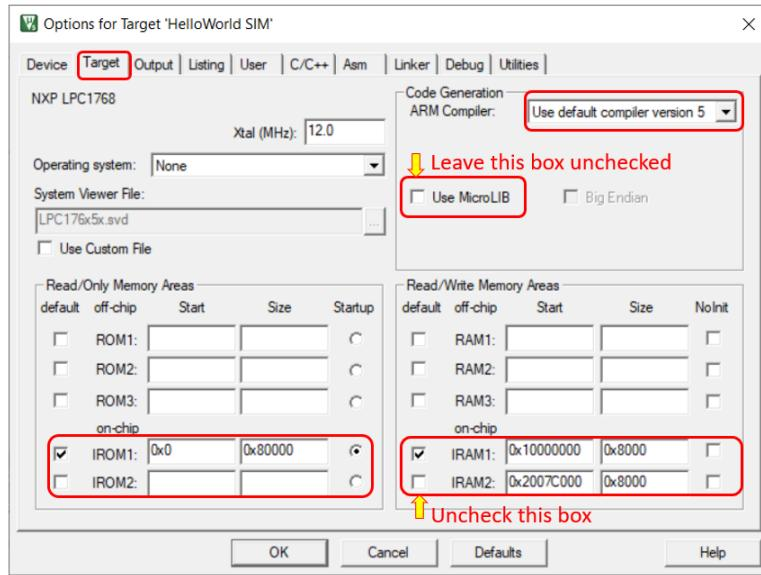

Figure 9.13: Keil IDE: Target Options Target Tab Configuration
3. Configure the Target tab as shown in Figure 9.13. We want to use the default version 5 arm compiler. We also want remove the IRAM2 from the default setting.
The default image memory map setting is that the code is executed from the ROM (see Figure 9.13). Since the ROM portion of the code needs to be flashed in order to be executed on the board, this incurs wear-and-tear on the on-chip flash of the LPC1768. Since most attempts to write a functioning RTX will eventually require some more or less elaborate debugging, the flash memory might wear out quickly. Unlike the flash memory stick file systems where the